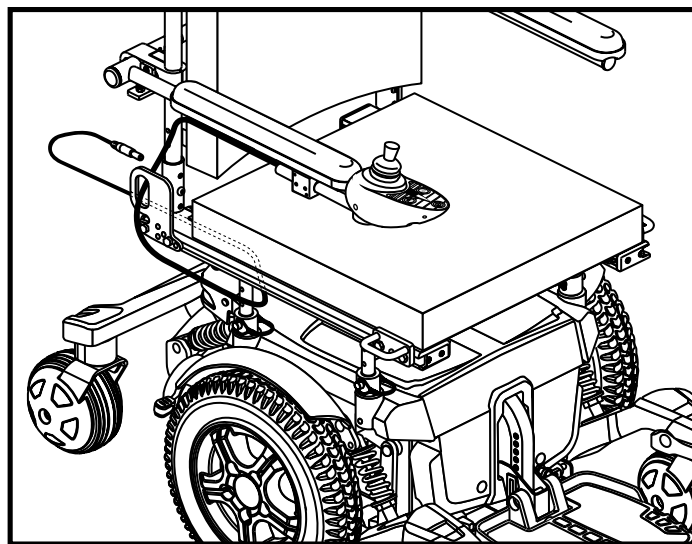

Figure 12. Controller Cable Routing on a Synergy Seat
4. Install the controller and route the cable to the back of the power base. See figures 12 and 13.